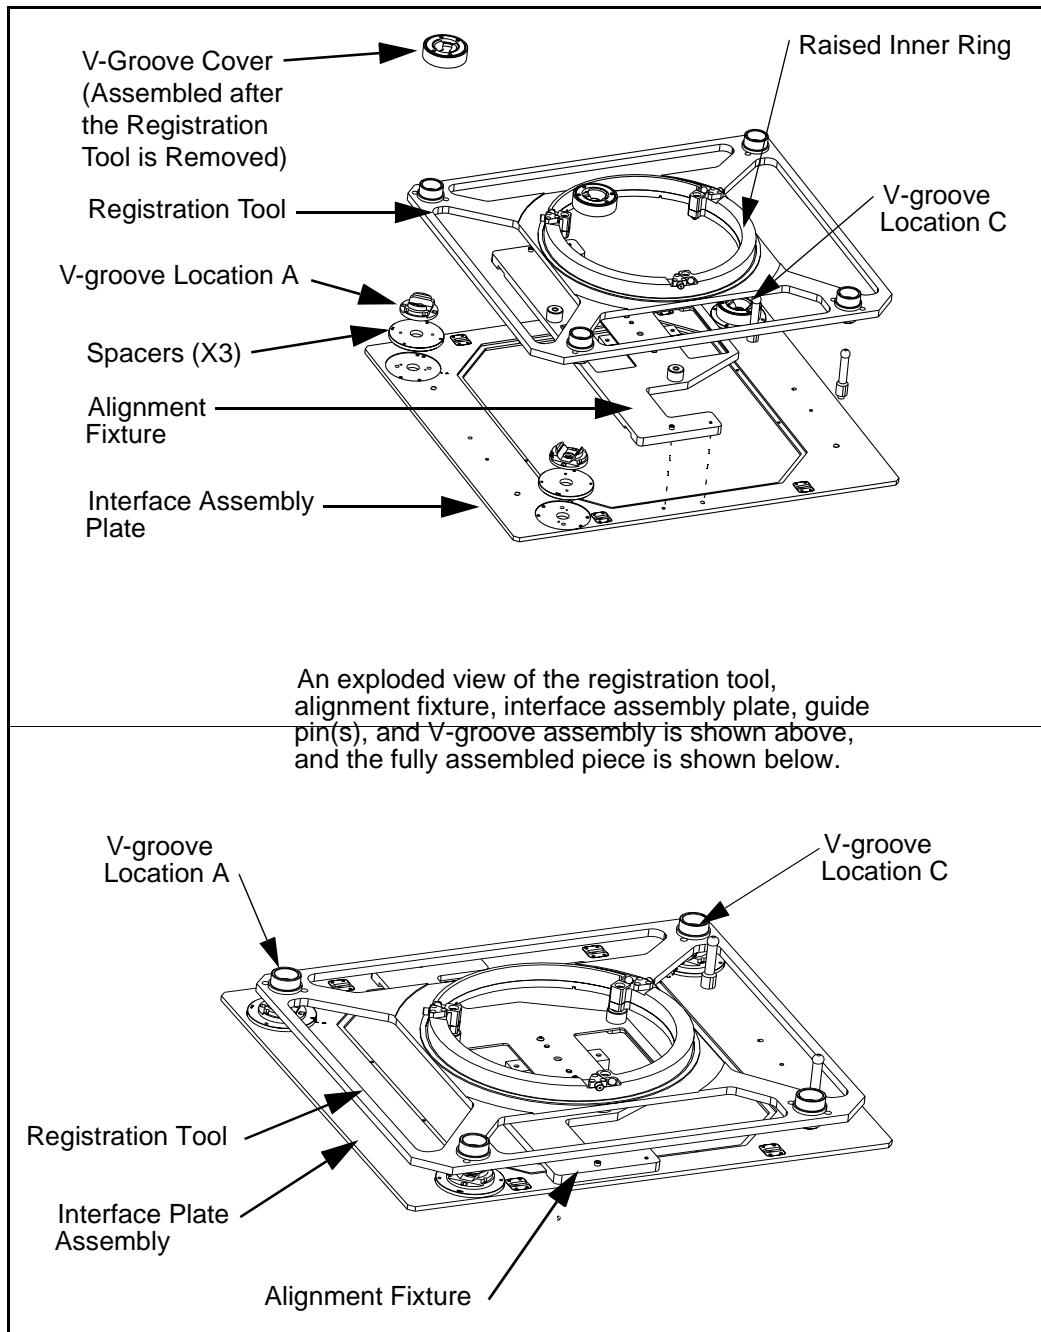

Figure 4 Registration Tool in Place on the Interface Assembly Plate
- 7) Position the registration tool (pn 480-226-00) on the interface assembly plate so that its pins engage the bushings in the alignment tool and the alignment blocks at the corners engage the flats of the V-grooves. See Figure 4.
The side of the registration tool with the raised inner ring must face the installer and the side with the flats on the corner bushings must face the interface assembly plate. The long, narrow cut-out window can be used as a reference when positioning the registration tool in the proper orientation-(the long, narrow cut out runs between V-groove location **A** and V-groove location **C**). For V-groove locations **A** and **C**, See Figure 4.